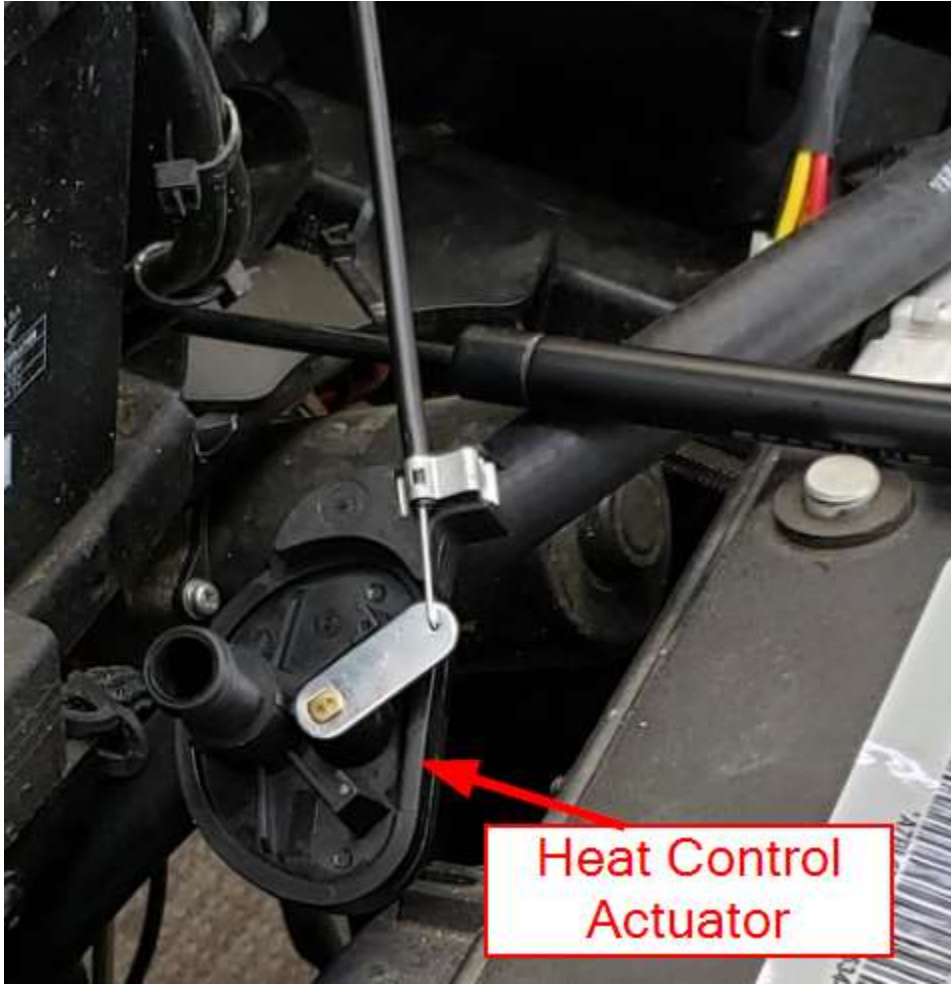
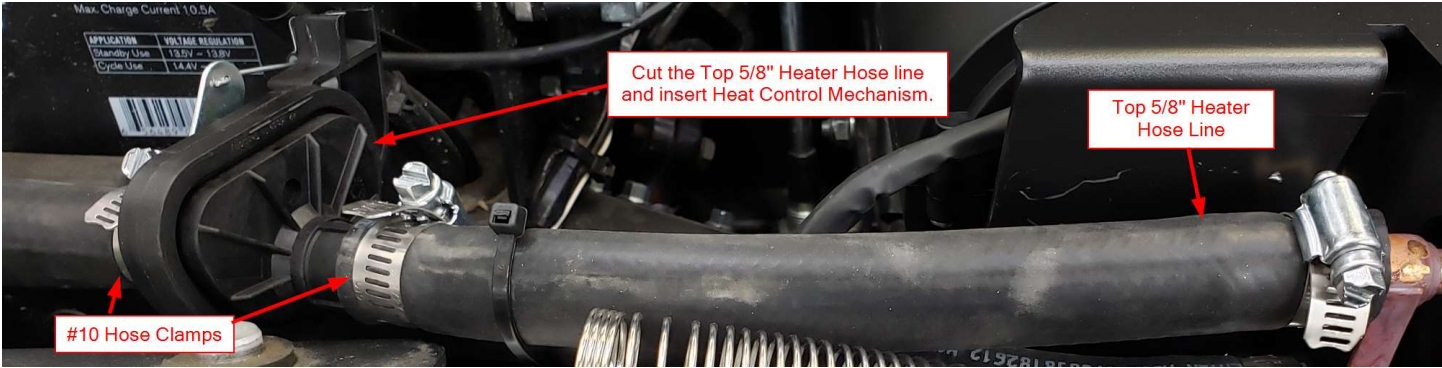

Figure 25
Figure 26
- c. Attach the remaining end of the cable to the Heat Control Actuator as shown in Figure 25. The Heat Control Actuator will be installed in the Top 5/8" Heater Hose line, find a natural position for the actuator along the Top Heater Hose line, cut the hose and insert the Actuator. Secure using #10 Hose Clamps as shown in Figure 26.